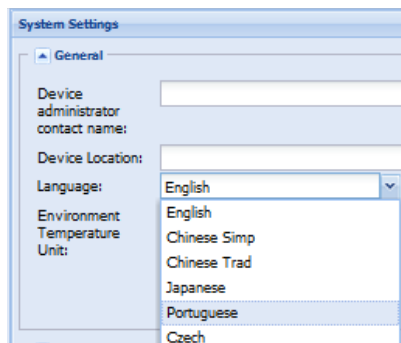

Figure 92. Change Language on System Settings Page
4. To change the language, select a language from the drop down list (see Figure 92).